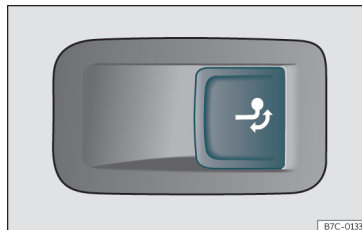

Fig. 243 Right side of the boot: button to unlock the tow hitch.
- Pull the »»» Fig. 243 button briefly. The tow hitch unlocks electrically and automatically turns outwards. The control lamp in the button will flash »»» Fig. 243.
- Pull the >>> Fig. 243 button briefly. The tow hitch unlocks electrically.
- Turn the tow hitch under the bumper with your hand until you feel and see that it engages and the control lamp on the >>> Fig. 243 button stays on.
- If the warning light of the button >>> Fig. 243 is *flashing*, this means that the tow hitch has not been attached properly or is damaged >>> ⚠.
- Never press the >>> Fig. 243 button when there is a trailer hooked to the vehicle or when a carrier system or other accessories are mounted on the tow hitch.